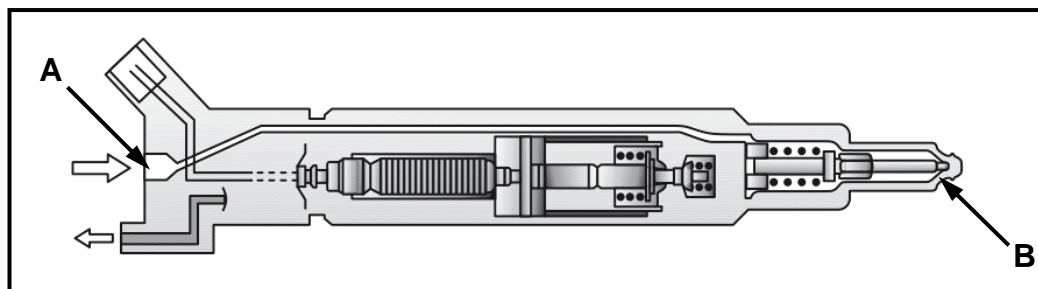

FIGURE 10.9
- 10.9 Label **A** and **B** of the piezo injector shown in FIGURE 10.9 below.